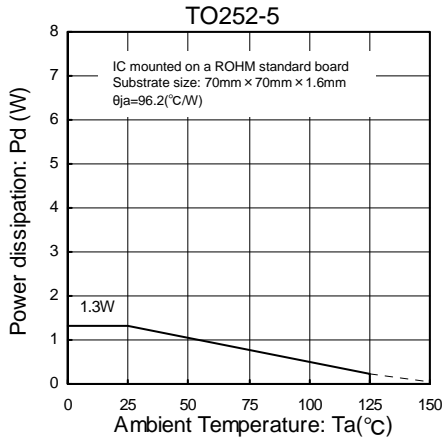

Fig.15
Refer to the heat mitigation characteristics illustrated in Figs. 15 ~ 18 when using the IC in an environment where $T_a \geq 25^\circ\text{C}$. The characteristics of the IC are greatly influenced by the operating temperature. If the temperature is in excess of the maximum junction temperature T_{jmax} , the elements of the IC may be deteriorated or damaged. It is necessary to give sufficient consideration to the heat of the IC in view of two points, i.e., the protection of the IC from instantaneous damage and the maintenance of the reliability of the IC in long-time operation.
In order to protect the IC from thermal destruction, it is necessary to operate the IC not in excess of the maximum junction temperature T_{jmax} . Fig. 15,16 illustrates the power dissipation/heat mitigation characteristics for the TO252 package. Operate the IC within the power dissipation P_d . The following method is used to calculate the power consumption P_c (W).